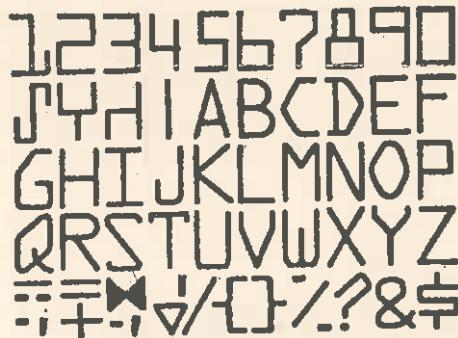

Fig. 36.16. OCR-A font (U.S.A.).
(10) Optical Mark Reading (OMR)
(11) Optical Character Recognition (OCR)
- Generally the characters to be read must be machine (typewriter/printer) printed and of a special character design or font (Fig. 36.16).
- This is true that letters, digits and symbols are printed in variety of forms, shapes and sizes. But even then, there are certain characteristics which are peculiar and common to each character. The OCR recognizes each character as if it were made of a collection of minute spots, (Fig. 36.16). After scanning a character, the pattern is matched against a set of patterns stored in the computer, whichever pattern is identified or nearly identified is said to be read. Patterns which are not identifiable by the OCR are rejected.
(12) Magnetic Ink Character Recognition (MICR)